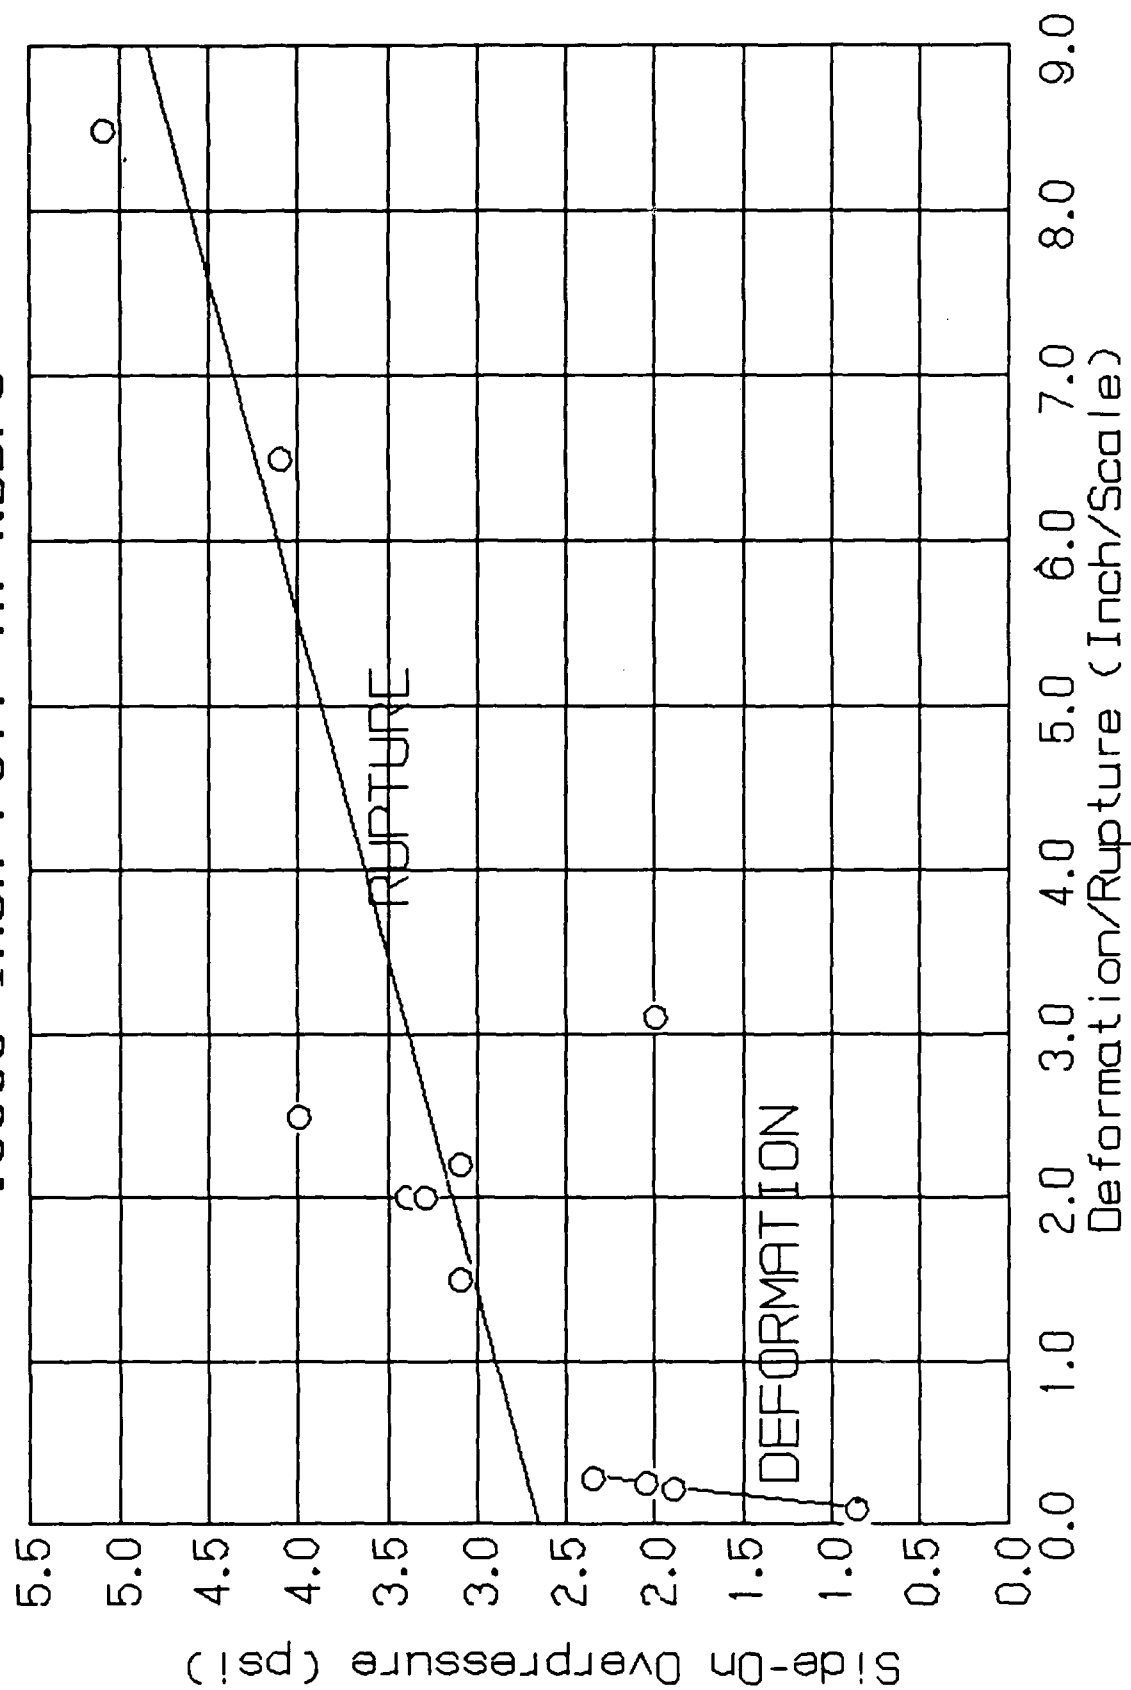

Figure 4. (U) CORRELATION CURVE B-1
- Figure 4. Correlation curve "B1": Side-on overpressure (PSI) correlated with deformation or rupture (inch/scale), using .0005-in. foil 8
2.11.2 Calibration Curve "B1." Choose calibration curve "B1" to determine side-on overpressure for determination or rupture with .0005-in. foil. It correlates side-on overpressure with deformation (or rupture) for .0005-in. foil, with the plane of the foil oriented normal to the direction of propagation of the initial shock (Figure 4).